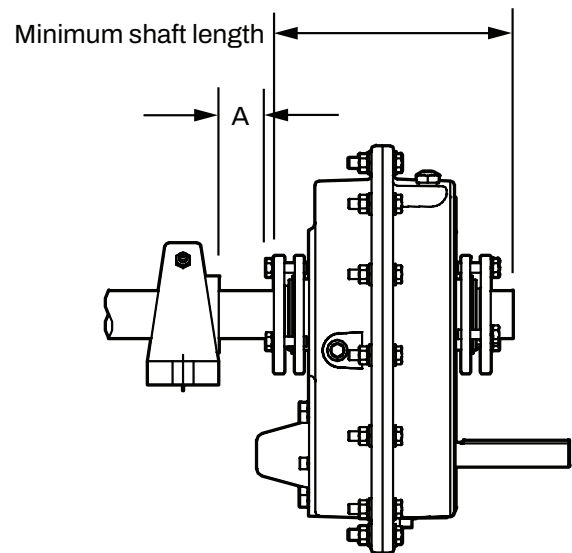

Figure 1 - Minimum Recommended Dimensions
1. One bushing assembly is required to mount the reducer on the driven shaft. An assembly consists of two tapered bushings, bushing screws and washers, two bushing backup plates and retaining rings, and necessary shaft key or keys. The driven shaft must extend through the full length of the reducer. If the driven shaft does not extend through the reducer do not use the standard tapered bushings; instead use the short shaft bushings as described in the Short Shaft Bushings section that follows. The minimum shaft length, as measured from the end of the shaft to the outer edge of the bushing flange (see Figure 1), is given in Table 1 and shown in Figure 1.
1. One bushing assembly is required to mount the reducer on the driven shaft. An assembly consists of one long tapered bushing, one short tapered bushing, one tapered bushing wedge, bushing screws and washers, two bushing backup plates and retaining rings, and necessary shaft key or keys. The driven shaft does not need to extend through the reducer for the short shaft bushing to operate properly. The minimum shaft length, as measured from the end of the shaft to the outer edge of the bushing flange (see Figure 1), is given in Table 1.